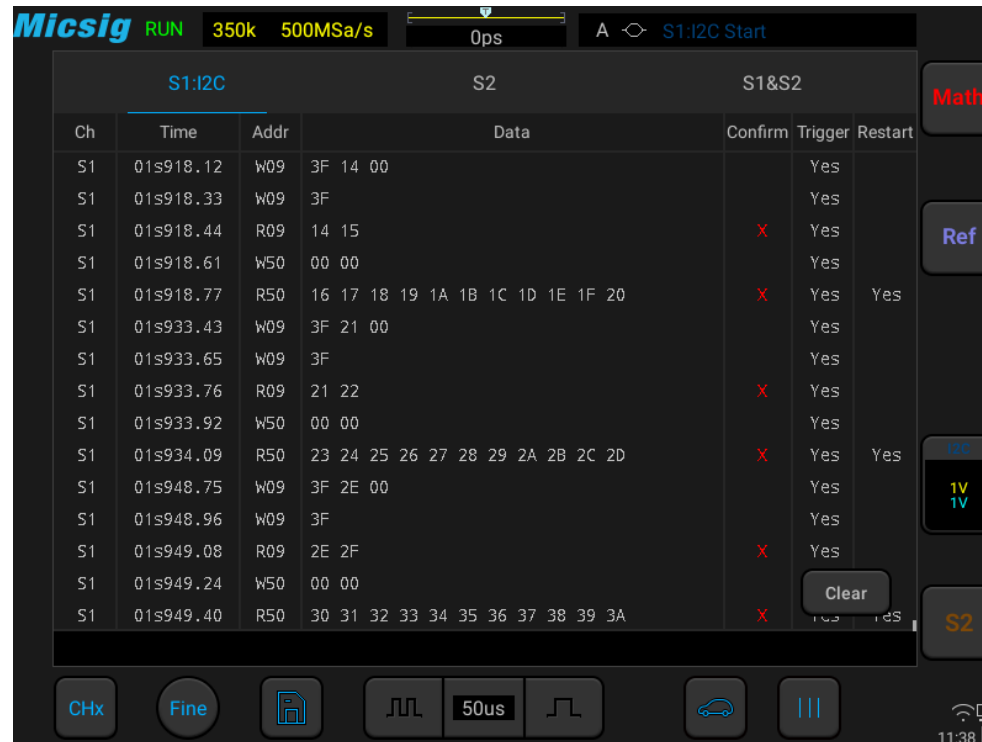

Figure 13-25 I2C Text Interface
**I2C text interface description, as shown in Figure 13-25:**
- (1) “Ch”: bus channel.
- (2) “Time”: intervals between the last read/write operations to current read/write operations
- (3) “Address”: in address bar, “R” means the read operation, and “W” means write operation
- (4) “Data”: data sent by one read and write operation is in the data bar.
- (5) “Ack”: in Ack bar, “X” means Ack bit lost.
- (6) “Trigger”: “Yes” means reach trigger condition.
- (7) “Restart”: “Yes” means reach restart condition.